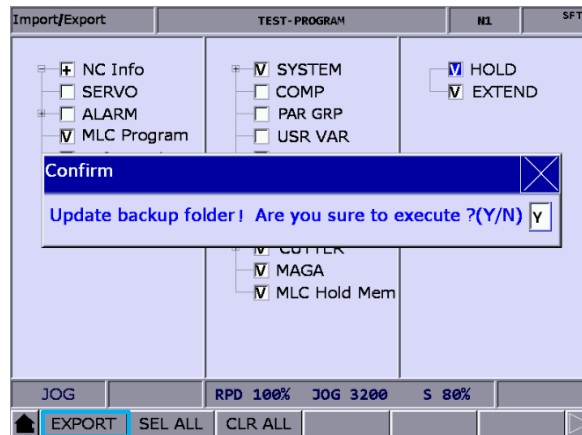

Figure 9.9.3
(8) If you save the exported file to a folder where an exported file already exists, a confirmation window appears as shown in Figure 9.9.3. Enter “Y” and press **ENTER** to replace the existing file with the newly exported file.